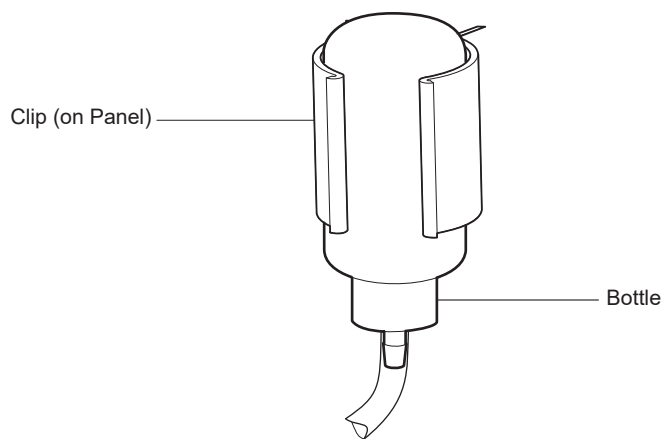

Figure 2.10 Reference Mounting Clip
8. Invert the electrolyte bottle and snap it into the clip. Refer to Figure 2.10. Locate the discharge tube of the air pump on the fluidics panel. The end of the tubing has a hollow push pin for pressurizing the reference reservoir. Puncture the base of the bottle with the pin and push the pin down until its PVC base abuts the bottle. Mark and date the level of filling solution in the reservoir. The electrolyte solution will begin to flow into the reference electrode.